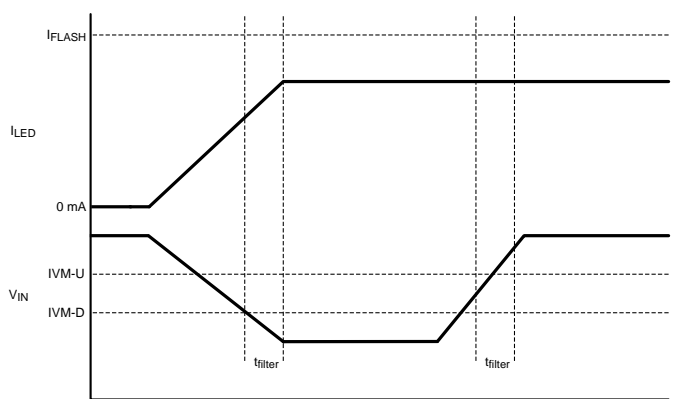

Figure 28. IVFM Stop and Hold Mode
**Stop and Hold Mode (Figure 28):** Stops Current Ramp and Holds the level for the remaining flash if  $V_{IN}$  crosses IVM-D Line. Sets IVFM Flag (bit[3] in Flags Register1) upon crossing IVM-D Line.